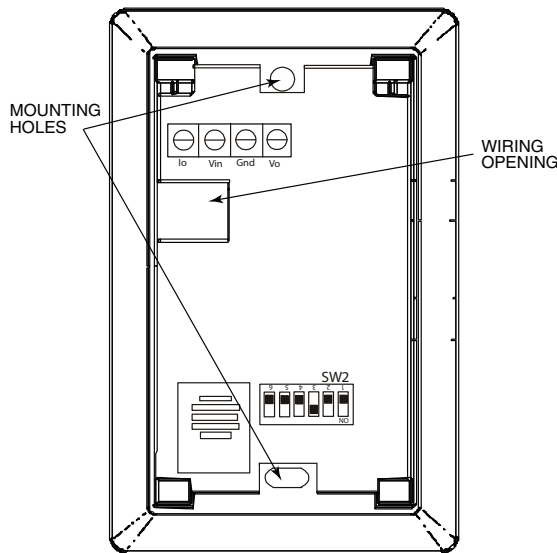

Fig. 57 — Space Relative Humidity Sensor Installation
If the sensor is installed directly on a wall service, install the humidity sensor using 2 screws and 2 hollow wall anchors (field supplied). Do not over tighten screws. See Fig. 57.
1. At the sensor, remove 4 inches of the jacket from the cable. Strip ¼ inch of insulation from each conductor. Route the cable through the wire clearance opening in the center of the sensor. See Fig. 57.